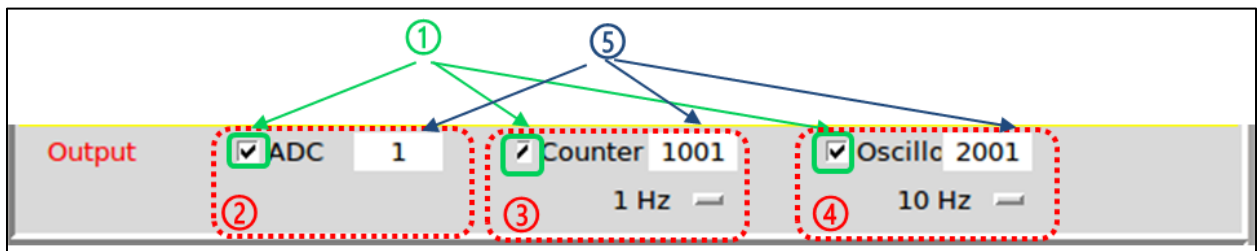

Figure 55: parameters of the Data output module
The Data output module (Figure 55) defines the output data sent to the computer by checking buttons ①. These data are:
- the data processed by the ADC module ②,
- the counting data ③,
- the data from the Oscilloscope module ④.
The experimenter can store or display all “ADC” data processed by the ADC module by enabling data output (cf. Figure 55 ①).